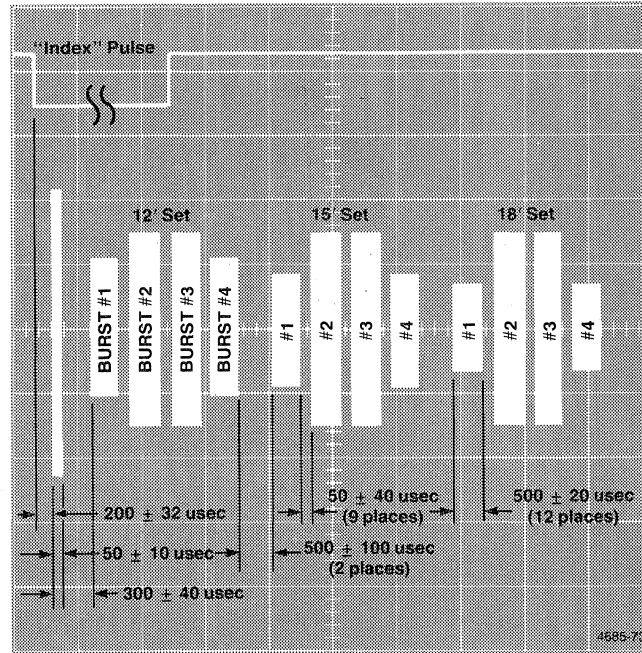

Figure 13-4. Azimuth Burst Waveforms.
4. Select head 0, and compare the waveform to Figure 13-4.
- o The first column gives the burst set (see Figure 13-4).